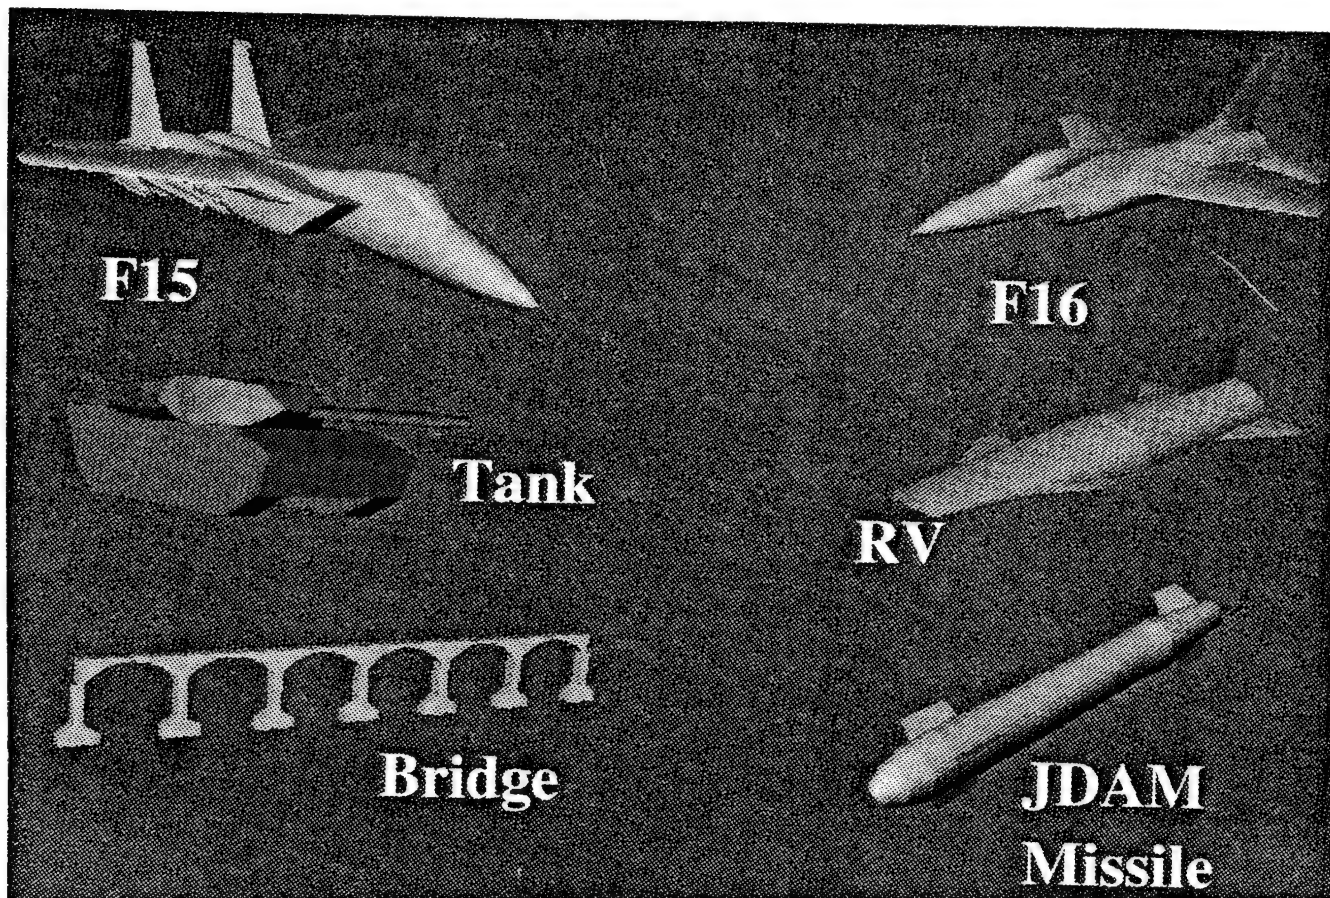

Figure 3: Several of the models created for TrajView animations.
- Simple 3-D models were developed to be used in the animations. An F-15 and an F-16 were modeled for aircraft animations. The JDAM missile was modeled for missile animations. A tank and a bridge were modeled for targets. A unit vector was modeled to be used for velocity vector animation displays. Two separate files for each model are given for both the globe earth and the flat earth initial orientations. Figure 3 shows several of the models created for the trajectory animations.